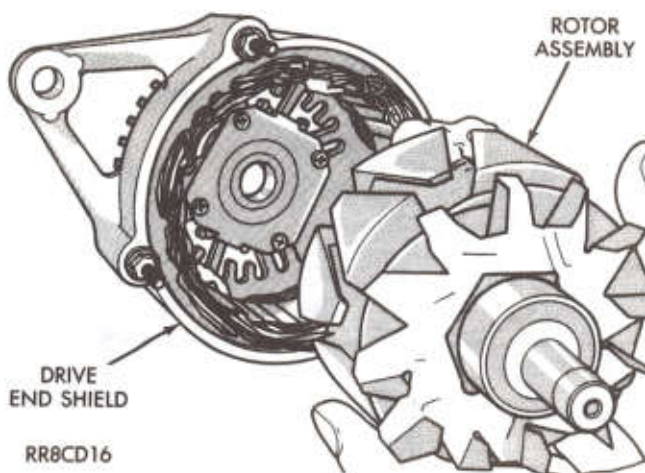

Fig. 15—Remove or Install Rotor Assembly
(10) Pull the rotor assembly from the drive end shield (Fig. 15).